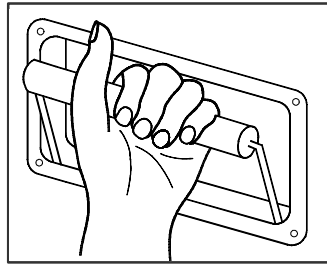

FIGURE 3-12: UNFOLD STEP WITH PALM UP
- 2) Refer to **Figure 3-12**. Grasp the recessed handle (located at left side of step) with palm UP and unfold middle platform section.